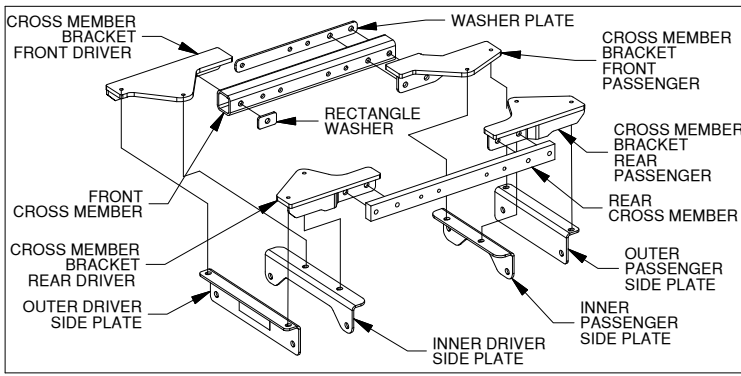
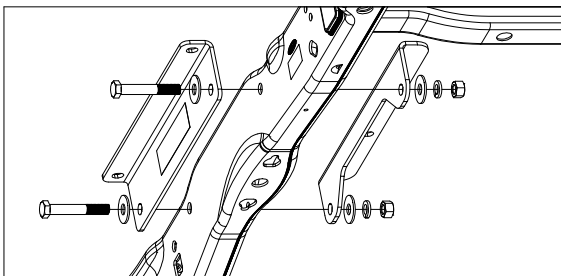
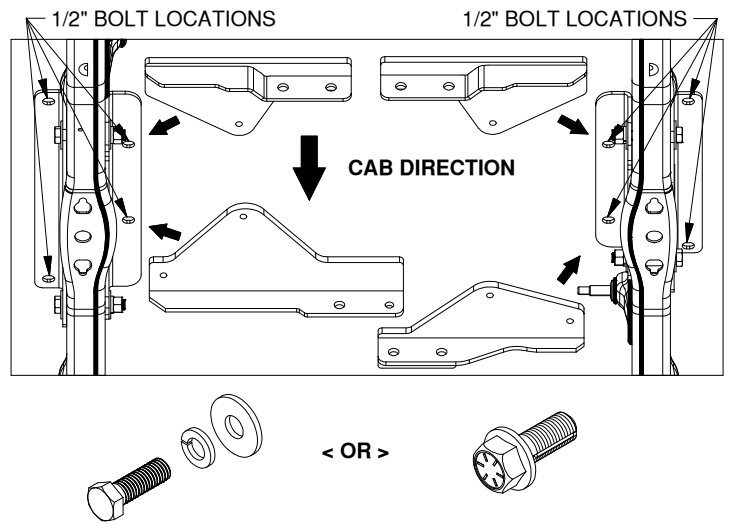
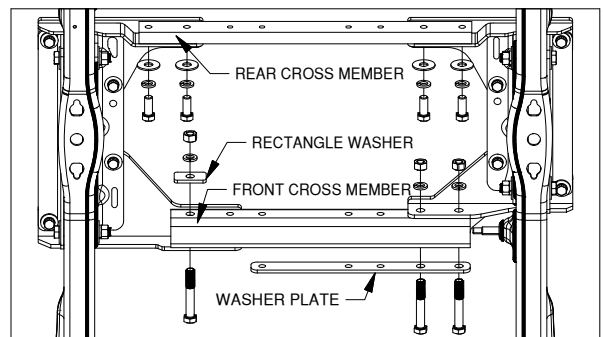

Figure B1: Side plates and Mounting Kit Exploded View
Figure B2: Driver Side Side plates
Figure B4: Bottom of truck frame looking up from the back of truck towards the cab
Figure B5: Bottom of truck frame looking up from the back of truck towards the cab
- 2. Install Side Plates.** Locate the outer and if needed the inner side plates, see figure B1. Install the side plates as shown in Figures B2 & B3, so that there is a side plate on the inside and outside of each frame member. Attach the side plates to the frame using 5/8" x 4" bolts, two flat washers, lock washer, and nut, as shown in Figure B2. Fasten hardware until the side plates are flush against frame.
- 3. Install Cross Member Brackets.** Locate the four cross member brackets as shown in Figure B1, and the eight, 1/2" bolts with an added thread locker. Attach these brackets to the inner and outer side plates using these bolts. If the bolts with thread locker are cap screws without a flanged head, also add a flat and lock washer, see Figures B4.
- 4. Install Front Cross Member.** Locate the front cross member shown in Figure B1. Attach the front cross member, washer plate and two 5/8" X 4" bolts to the passenger side cross member bracket, see Figure B6. Next, attach the cross member to the driver side cross member bracket with 5/8" x 4" bolt, rectangle washer, lock washer and nut, see Figure B5.
- 5. Install Rear Cross Member.** Locate the rear cross member shown in Figure B1. Attach the rear cross member to the cross member brackets as shown in Figure B6 with 5/8" x 1-1/2" bolts, flat washers, and nuts.